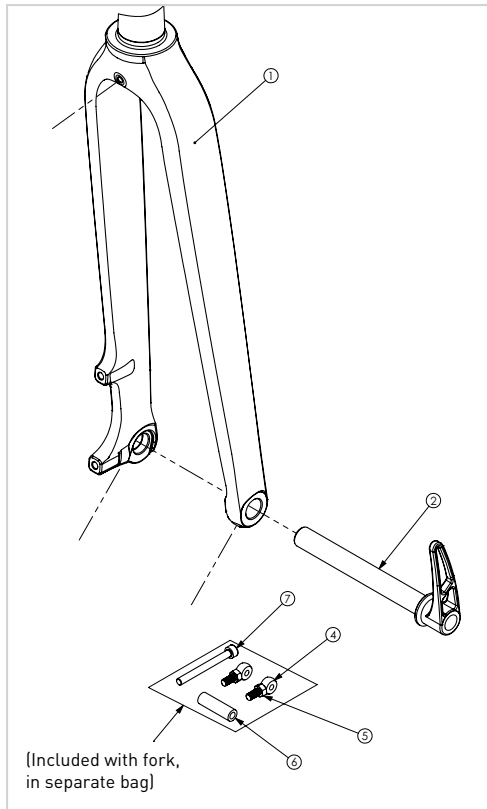

Figure 3
12. Install fenders per fender manufacturer specifications. Use supplied 30mm spacer and 40mm screw on disc brake side if needed for clearance (fig. 3). **(NOTE: Salsa recommends QR fenders only!)**